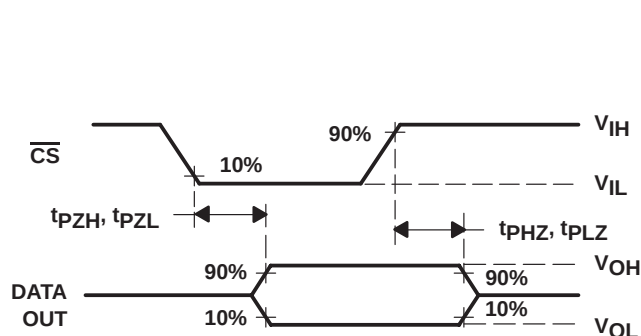

Figure 8. DATA OUT to Hi-Z Voltage Waveforms
10. I/O CLK period =  $1/(\text{I/O CLK frequency})$  (see Figure 8).
| $t_{PZH}$ , $t_{PZL}$ Enable time, $\overline{CS}$ low to DATA OUT valid (MSB driven)         | See Figure 8    |     | 0.7              | 1.3 | $\mu\text{s}$ |
| $t_{PHZ}$ , $t_{PLZ}$ Disable time, $\overline{CS}$ high to DATA OUT invalid (high impedance) | See Figure 8    |     | 70               | 150 | ns            |